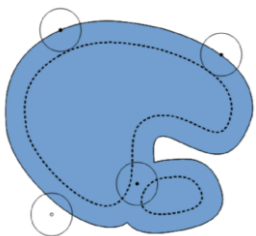

Figure 3: Dilation of an ROI using a disk-shaped structuring element.
Dilation probes an ROI with the SE to test whether the SE intersects with pixels within the ROI. It results in shapes that are larger than those in the original ROI. Additionally, it creates connections between components and fills holes within the shape. Figure 3 illustrates an example of dilation. In this case an original image of light blue shapes is probed with a disc-shaped structuring element (SE).